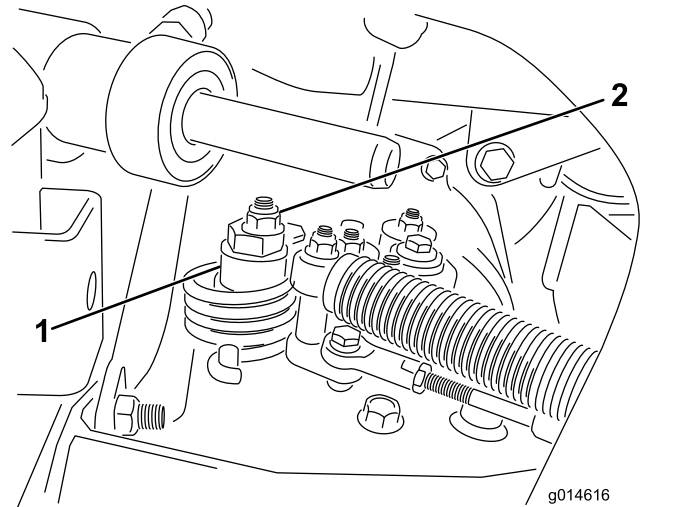

Figure 46
A. Loosen the nut securing the eccentric to the top of the hydrostat (Figure 46).
- C. Rotate the eccentric until creep does not occur in either direction. When the wheel stops rotating, tighten the nut locking the eccentric and the adjustment (Figure 46). Verify the adjustment with the throttle in the SLOW and FAST position.